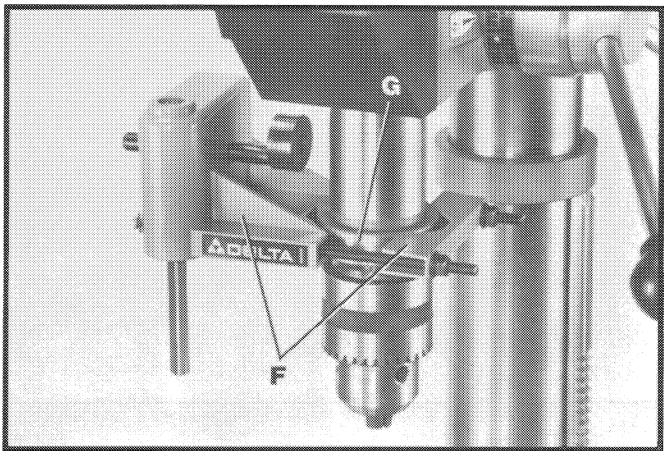

Fig. 5
5. Assemble the gear box and mounting bracket (F) Fig. 5, to collar (G) on spindle as shown.